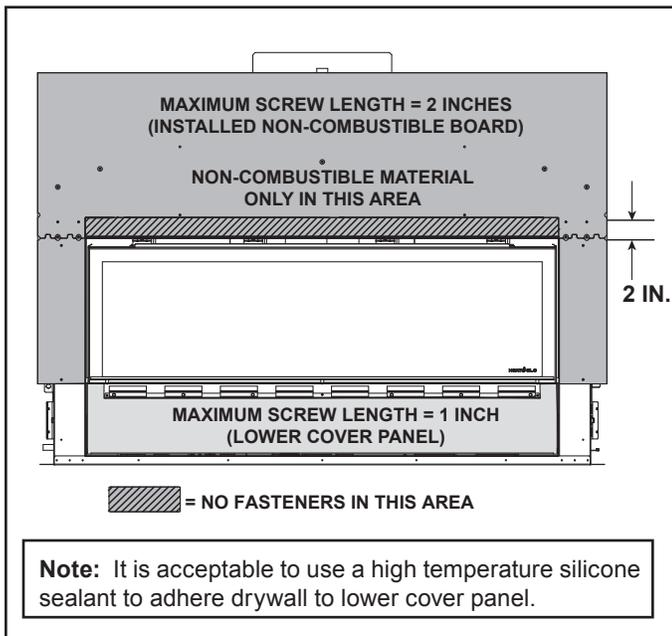

Figure 10.1 Screw Length Requirements
When finishing the wall around the fireplace, it is critical that wall sheathing be fastened properly. Wall sheathing fasteners, such as screws or nails, are not permitted in some locations. See Figure 10.1.
It is acceptable to pre-drill holes and use self-tapped screws in the installed non-combustible board which may be used to lathe (a backer for tile, marble, etc.). Screws being installed through the installed non-combustible board should be self-tapping type with a maximum length of 2 inches. See Figure 10.1.
When installing finish material on the lower cover panel, DO NOT drill or install screws longer than one inch. Screws longer than one inch could penetrate the lower cover panel causing damage to components or penetrate the gas line. One inch screws are included in the manual bag assembly that are intended for use when attaching finishing material to lower cover panel. See Figure 10.1.
2. Install finishing material to the top ledge of the bottom access panel, covering the eight rectangle holes in the access panel. See Figure 10.1 for screw length requirements.
3. Install non-combustible finishing material up to the outer edges of the trim ring. See Figure 10.1 for screw length requirements.